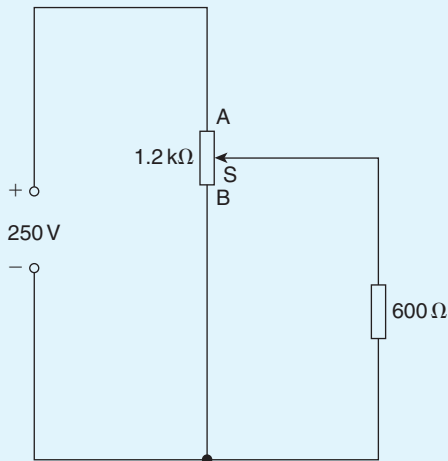

Figure 5.46
3. For the circuit shown in Fig. 5.46, calculate the voltage across the  $600\ \Omega$  load when point  $S$  splits  $AB$  in the ratio 1:3